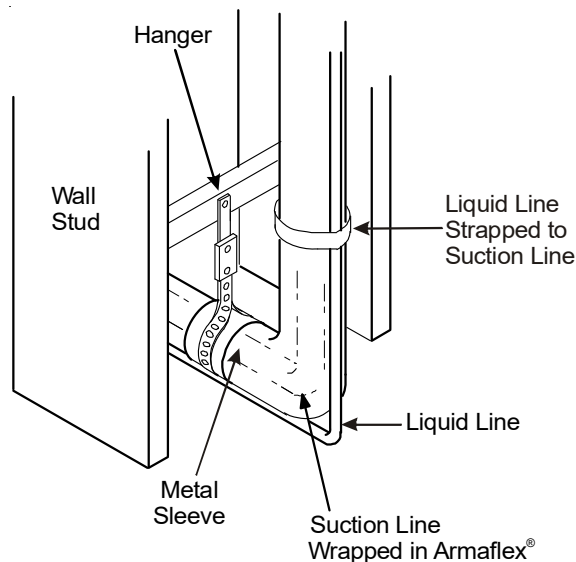

Figure 1-1.
8. **Vibration and Noise:** In long line applications, refrigerant tubing is highly prone to transmit noise and vibration to the adjoining structure. Use adequate vibration-isolating hardware when mounting line set to structural members. See Figures 1-1, 1-2 and 1-3 for example of proper mounting.